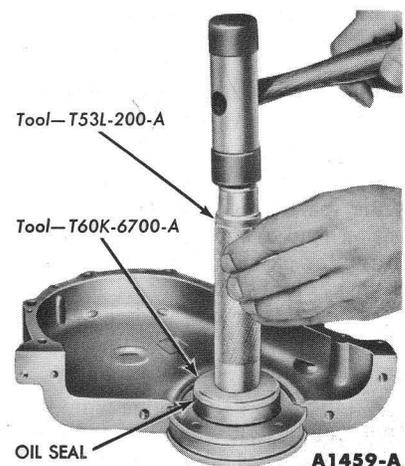

FIG. 54—Crankshaft Front Oil Seal Replacement
2. Coat a new seal with grease and install the seal (Fig. 54). Drive the seal in until it is fully seated in the recess. Check the seal after installation to be sure the spring is properly positioned in the seal.